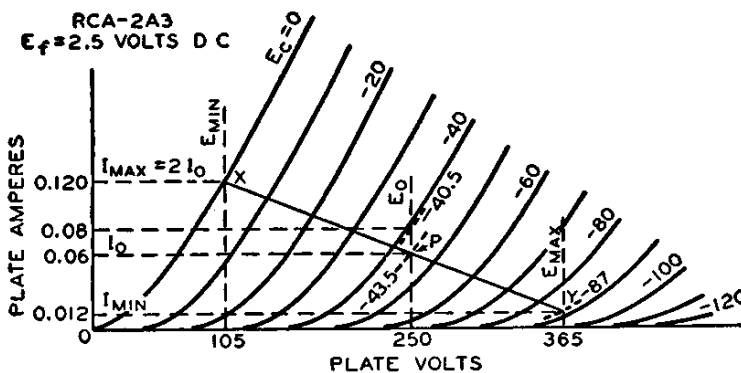

Fig. 21
Calculation of the power output of a triode used as a class A amplifier with either an output transformer or a choke having low dc resistance can be made without serious error from the plate family of curves by assuming a resistance load. The proper plate current, grid bias, optimum load resistance, and per-cent second-harmonic distortion can also be determined. The calculations are made graphically and are illustrated in Fig. 21 for given conditions. The procedure is as follows: (1) Locate the zero-signal bias point P by determining the zero-signal bias  $E_{c0}$  from the formula:
**Example:** Determine the load resistance, power output, and distortion of a triode having an amplification factor of 4.2, a plate-dissipation rating of 15 watts, and plate characteristics curves as shown in Fig. 21. The tube is to be operated at 250 volts on the plate.